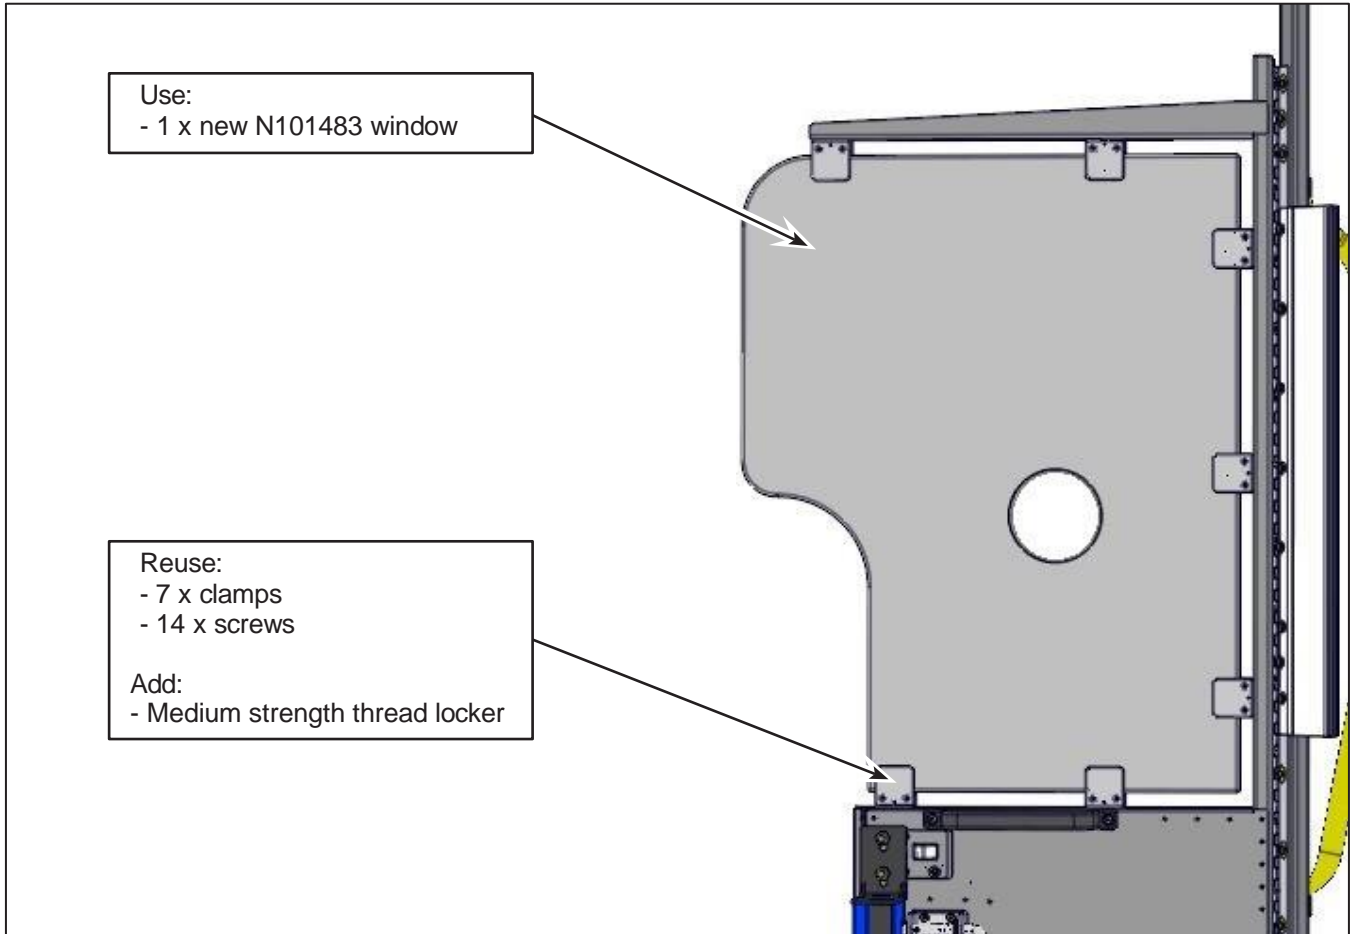

Figure 1 - Driver's Door Window Replacement
- 1.3. On the inside of the driver's door, for each of the 7 clamps, unscrew the 2 screws to release the window (Figure 1). Remove only the first part of the clamp. Discard the glass, keep the clamps and screws. **Note:**